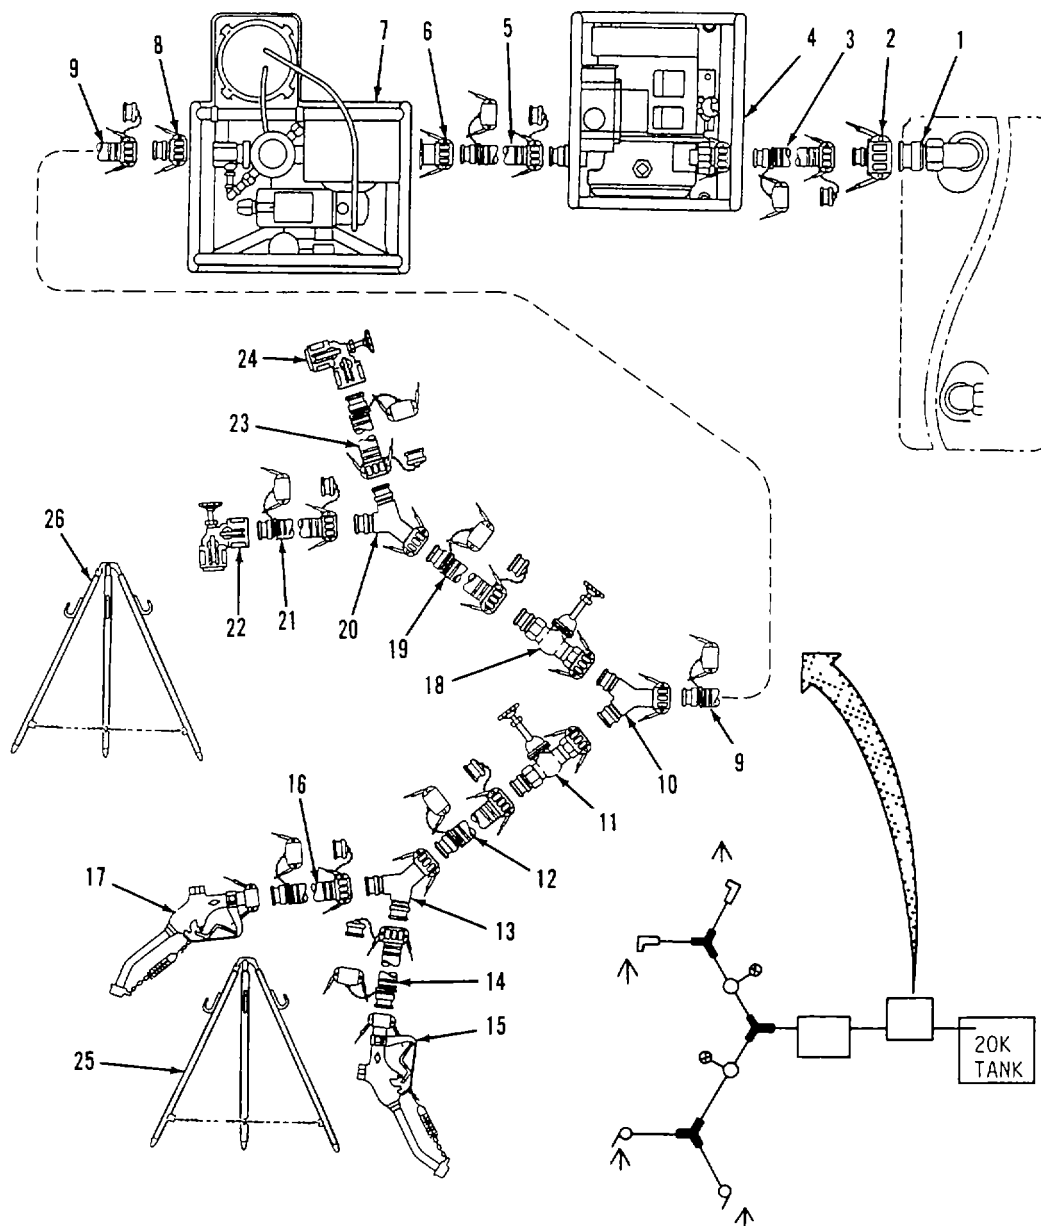

Figure 2-29. Distribution Point Assembly.
- m. Assemble Distribution Points. Refer to figure 2-29.